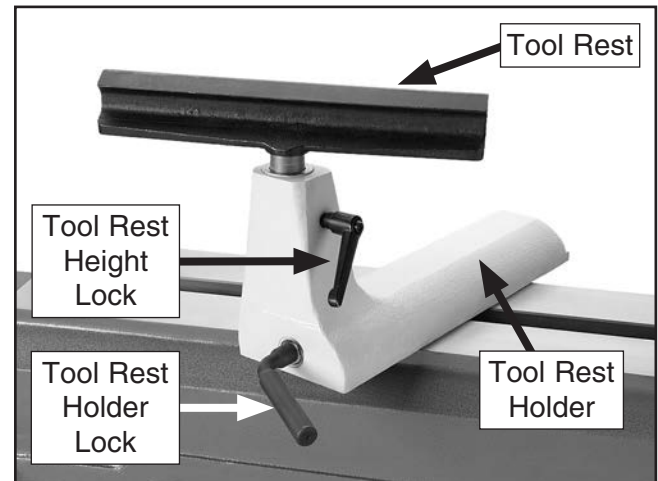

Figure 15. Tool rest controls.
1. Loosen the tool rest holder lock lever and move the tool rest assembly to the desired position on the lathe bed (see **Figure 15**).
Note: The hex nut underneath the tool rest holder (see **Figure 15**) may require occasional tightening to restore proper clamping pressure and lever position. When adjusted properly, the lever should be at the horizontal position when the tailstock is fully clamped to the bed.